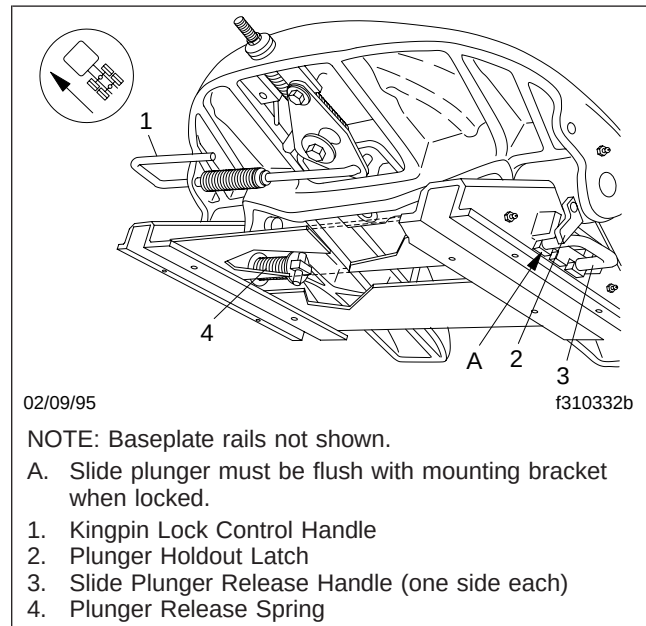
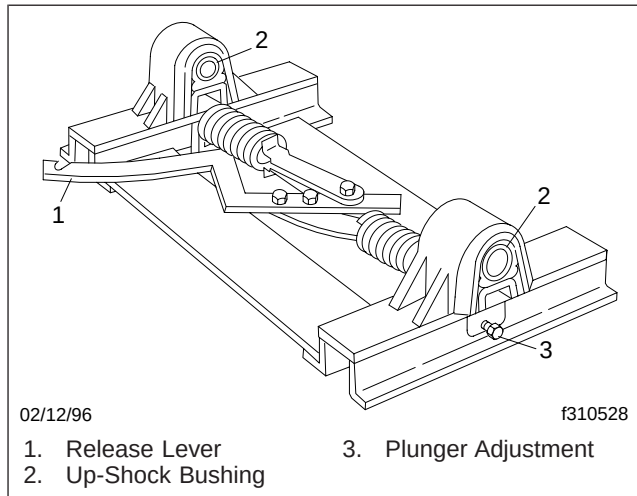
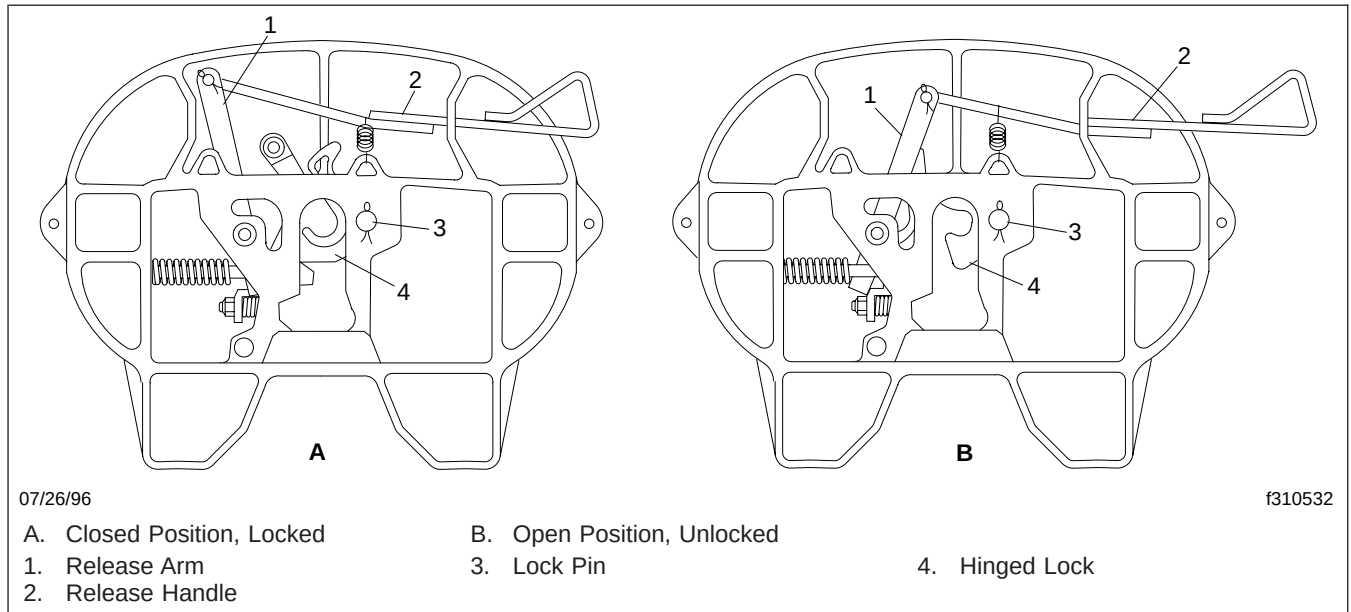
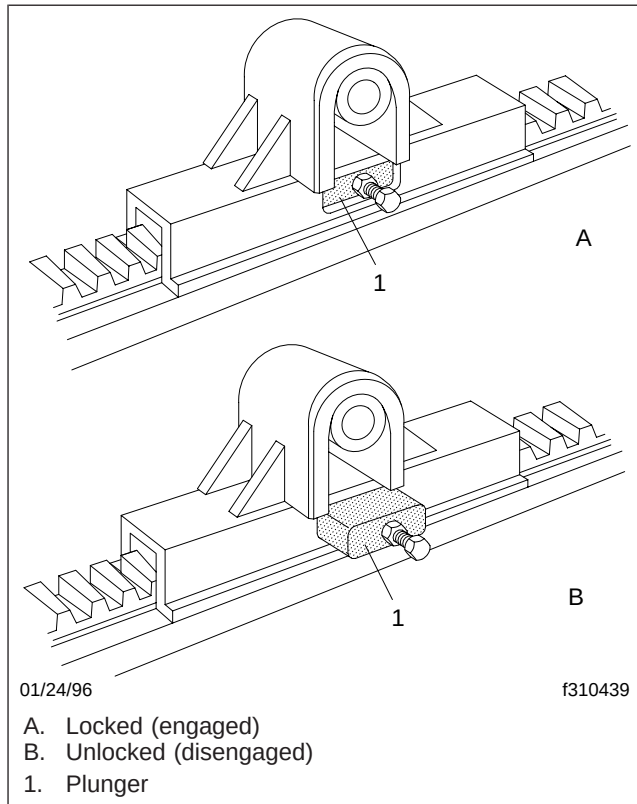

Fig. 10.3, Double Manual Release Slide
Fig. 10.4, Single Manual Release Slide
Fig. 10.7, Type "A" Kingpin Lock Mechanism
Fig. 10.9, Plunger Positions
The double manual release slide assembly (**Fig. 10.3**) contains two slide plunger release handles, one on each side of the bracket assembly. Both handles must be manually operated to lock and unlock each side of the sliding member.
The single manual release slide assembly (**Fig. 10.4**) has a single lever which locks and unlocks both
Type "A" Kingpin Lock Mechanism (Fig. 10.7)
- 2.2 For double manual release slide models, pull both plunger release handles (Fig. 10.3) outward, from each side of the mounting brackets, to the unlocked position. Position the plunger holdout latch in the groove of the plunger. See Fig. 10.9.
For single lever release slide models, use the release hook to pull the lever to the unlocked position (Fig. 10.7). Lift the release lever to the secure position behind the catch. Visually check the slide plungers to make sure they have released as shown in Fig. 10.9.
- 8.2 For double manual release models, lift the plunger holdout latch on each side of the mounting brackets. Then, move the release plunger on each side of the mounting brackets (Fig. 10.3) into the locked position. Make sure that the slide plungers are engaged in the fully locked position. See Fig. 10.9.
- 8.3 For single manual release models, trip the release lever (Fig. 10.4) to allow the slide plungers to retract to the locked position. Visually check the slide plungers to make sure they are in the locked position as shown in Fig. 10.9.